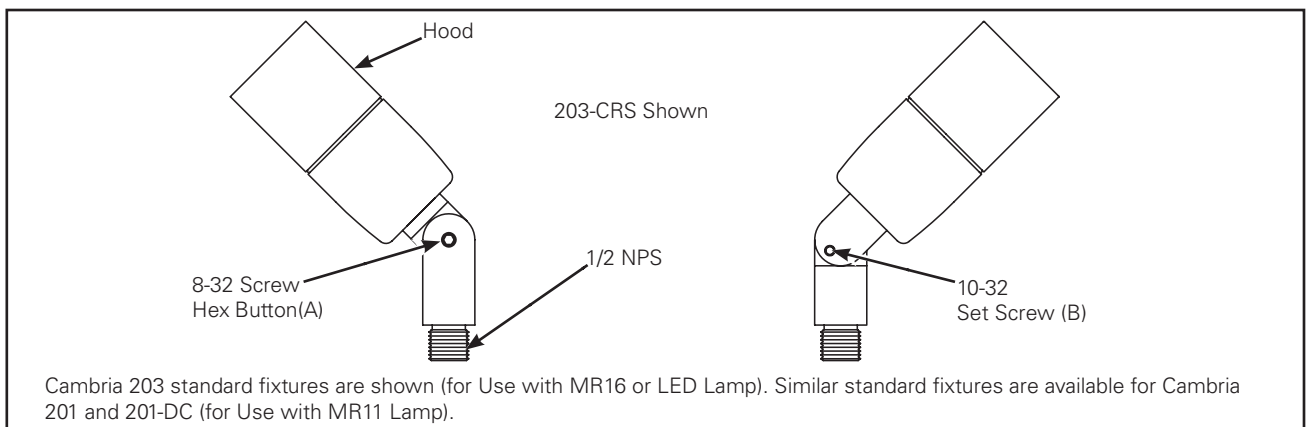

Figure 1.
Loosen set (B) with allen wrench (provided by others), aim fixture. Tighten the screw. (Figure 1.)